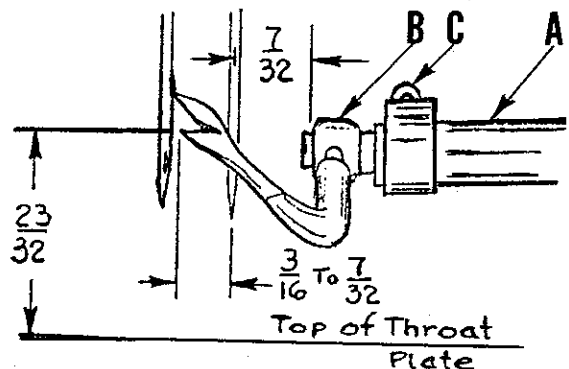

Fig. 6
If spreader gauge is not available to set the spreader, turn the handwheel in the operating direction until the spreader bar (A, Fig. 6) is in the extreme left position. Set the spreader holder (B) in the spreader bar so the left end of the holder is  $\frac{7}{32}$  inch to the right of the center of the right hand needle (Fig. 6), and tighten collar screw (C). Looper gauge 21225-7/32 can be used for this setting. **DO NOT CHANGE THIS LATERAL SETTING OF THE HOLDER.**
With the spreader in this position, rotate the spreader about its shank so the point closest to the operator is between  $3/16$  and  $7/32$  inch to the left of the center of the needle and approximately  $23/32$  inch above the throat plate (Fig. 6). Turn the handwheel in the operating direction and check clearance between the bottom point of the spreader and the lower looper. The spreader point should cross the top of the looper to the left as close as possible to the eye and to the back of the looper without touching it.